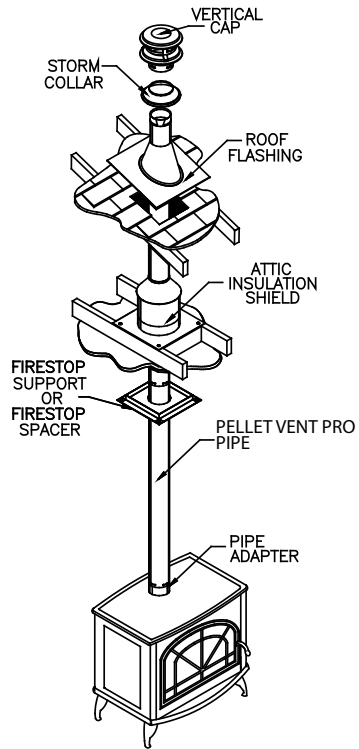

Figure 1
2. If the vent exit is on top of the stove (*Figures 1*):